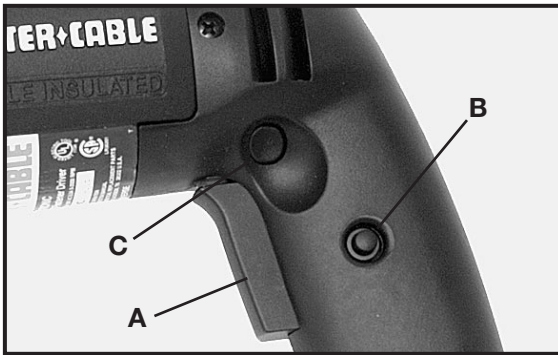

Fig. 1
2. Squeeze trigger switch (A) Fig. 1, to start motor, as the trigger switch is squeezed, the driver speed increases. The screwdriver bit will not rotate until engaged in a fastener and forward pressure is applied to the tool. To stop motor, release trigger switch.
3. LOCK BUTTON – A lock button (B) Fig. 1, is provided to keep motor running without holding the trigger switch ON.
4. DIRECTION OF ROTATION – Porter-Cable screwdrivers will rotate either in a clockwise direction for driving fasteners with a right hand thread, or a counter clockwise direction for removing fasteners with a right hand thread. To determine rotation, stop the motor by releasing the trigger switch and move the reversing lever (C) Fig. 1, in the direction marked “reverse” for counterclockwise rotation, or in the opposite direction for clockwise rotation.